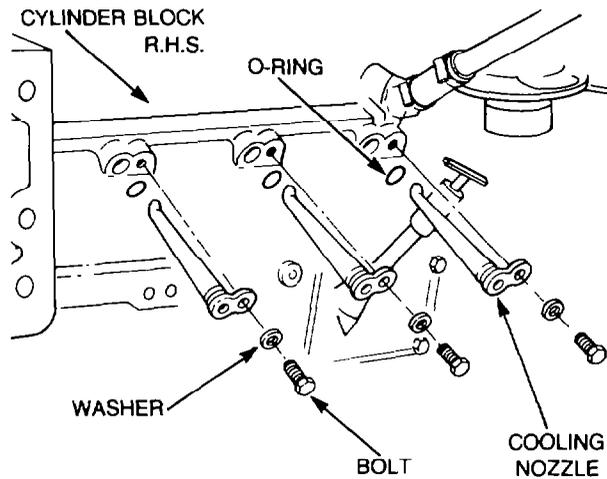

Figure 55 — Piston Cooling Nozzle — Installation
- bm. Place new O-rings on the piston cooling nozzles, grooves, lubricate the nozzles and O-rings using a vegetable based oil. Install the nozzles into the apertures in the right hand side of the cylinder block (see Fig. 55), torque the retaining bolts to 15 Nm (11 lb.ft).